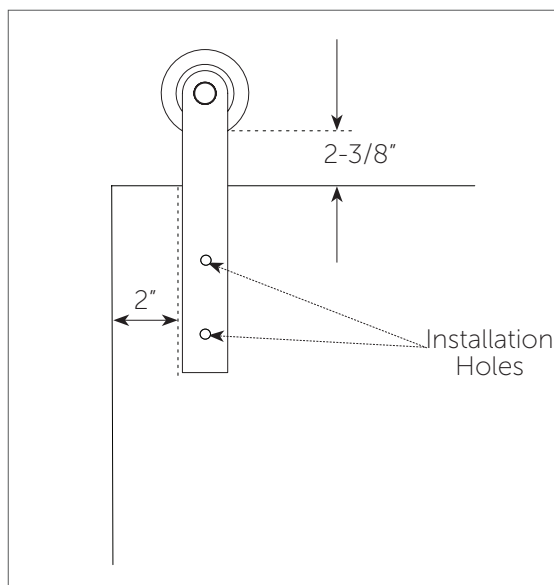

Figure 2
3. Adjust the placement of the hanger for a 2-3/8" gap between the top of the door and the bottom edge of the wheel. Ensure the side of the hanger is resting 2" from the edge of the door. (Figure 2).
4. Mark the center of each installation hole with a pencil. (Figure 2).